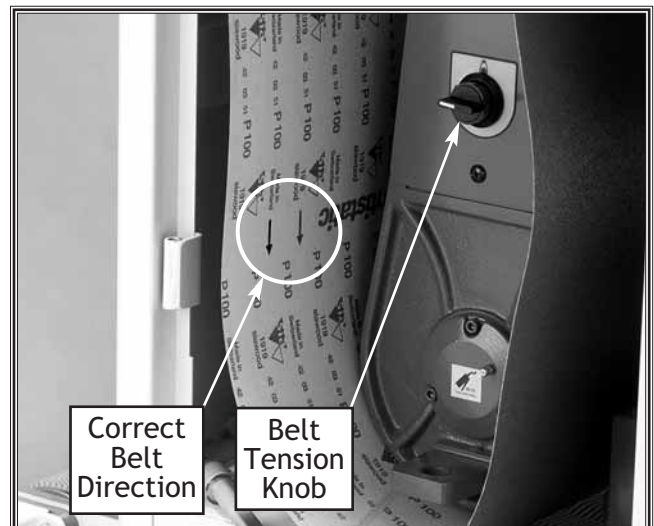

Figure 9. Installing sanding belt.
3. Install the sanding belt with the arrows pointing in the direction of drum rotation and center the belt on the rollers. See **Figure 9**.